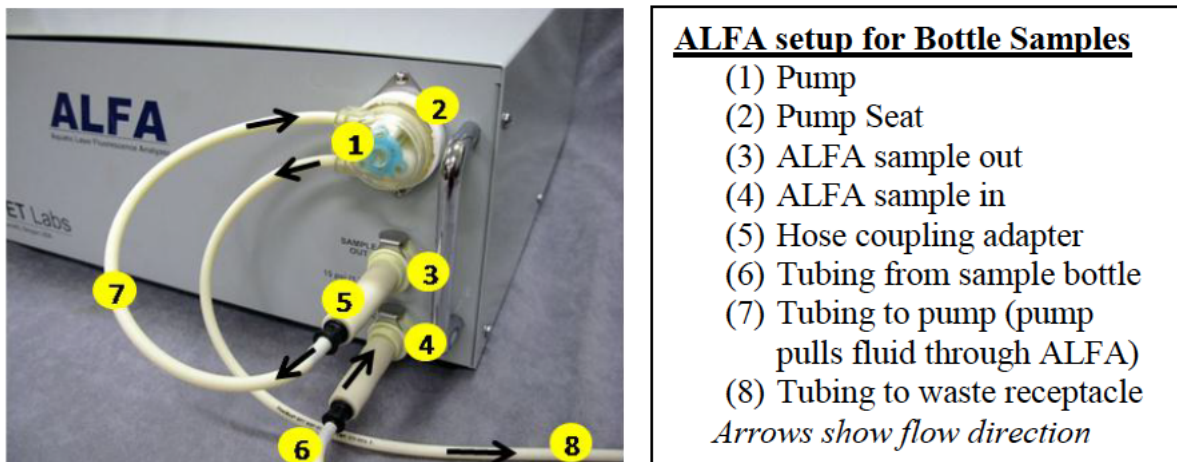

Figure 4: Proper pump setup for cleaning of the ALFA. Pump should draw fluid through the system (i.e. pump is connected to the sample out port)
- (d) Attach tubing according to figure 4